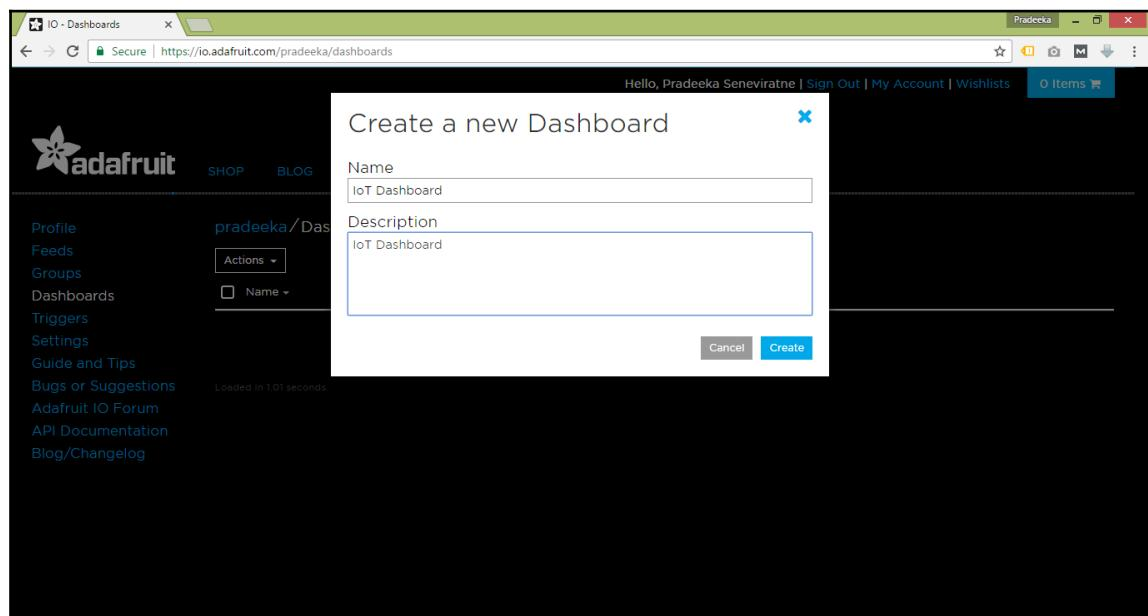

Figure 4-11: Create a new dashboard dialog box
3. A pop-up dialog box, **Create a New Dashboard**, will appear (Figure 4-11) and prompt for the **Name** and **Description**. Type the following and click the **Create** button: